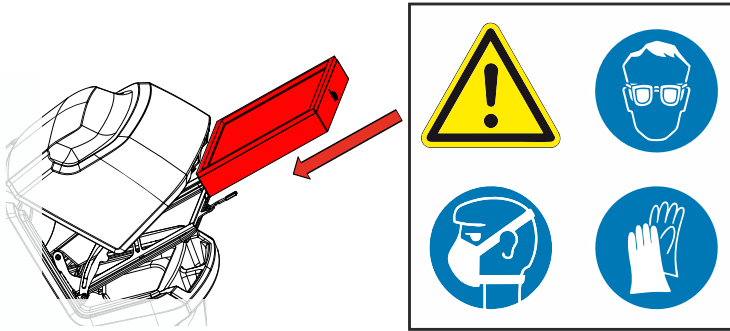

Fig. 44
- Insert dust filter in the installation direction - see symbol on the filter - into the filter holder. (Fig. 44)